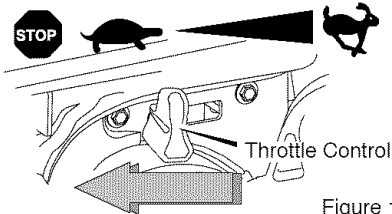

Figure 18
1. To stop the engine, move the throttle control lever to the "SLOW" position, then move to the "STOP" position (see Figure 18).